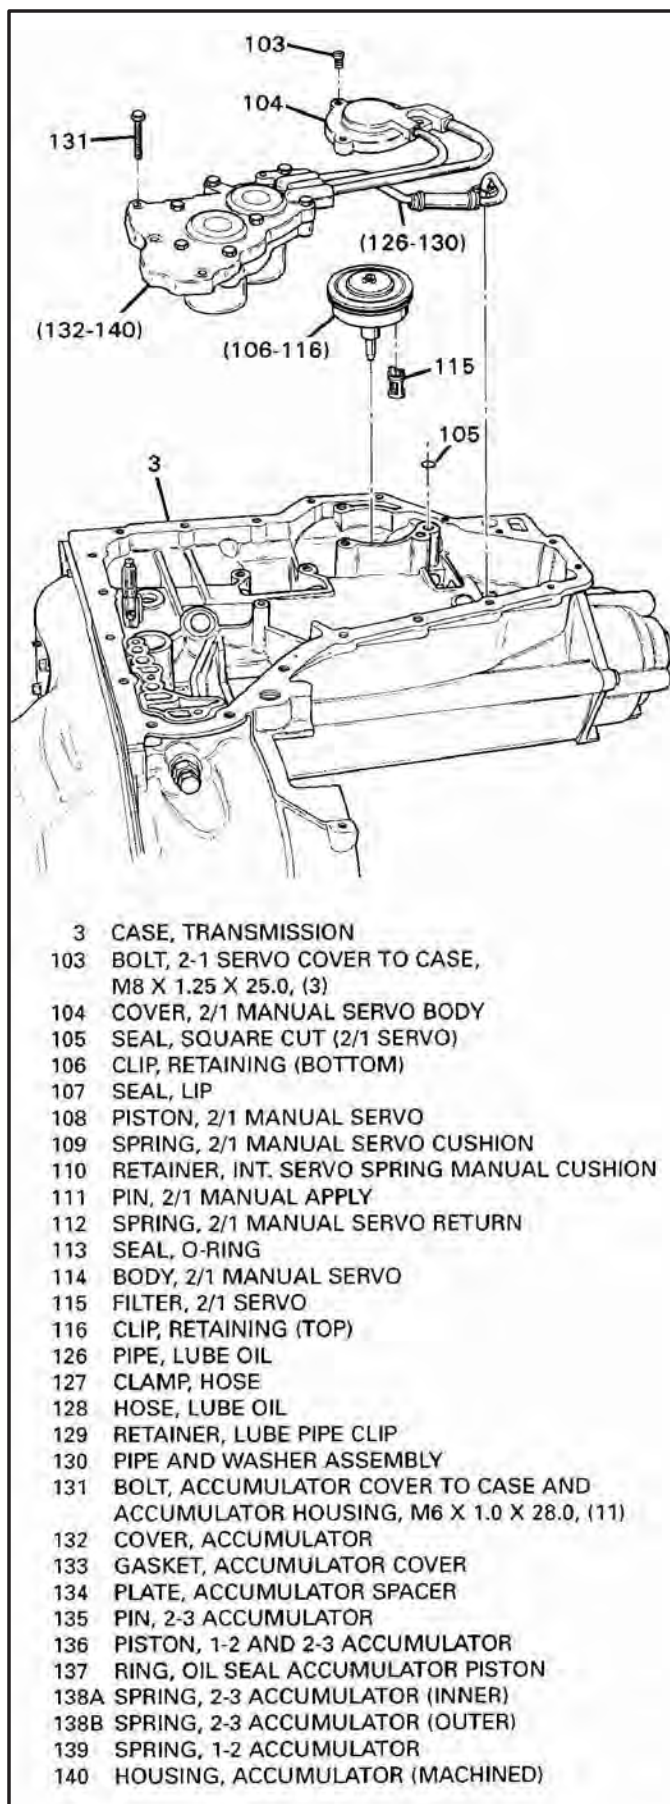

Figure 44
8. Remove the complete accumulator housing, feed pipes and 2-1 manual servo cover as an assembly, as shown in Figure 44, and set aside for component rebuild.
9. Remove the 2-1 manual servo assembly, as shown in Figure 44, and set aside for the component rebuild process.
10. Remove and discard the lathe-cut forward servo seal, as shown in Figure 44.